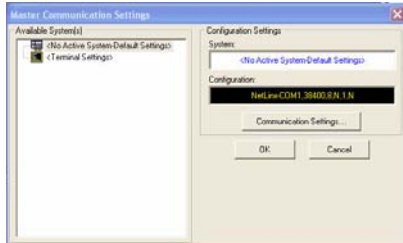

FIG. 37 Master Communications Settings dialog
- In NetLinx Studio, select **Settings > Master Communication Settings**, from the Main menu to open the *Master Communication Settings* dialog (FIG. 37).